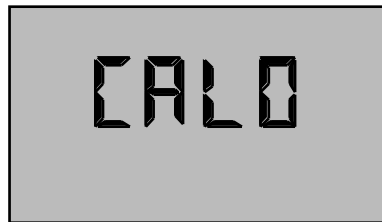

Figure 1
3. Press the **(MR)** key until "CAL0" appears. Fig. 1.